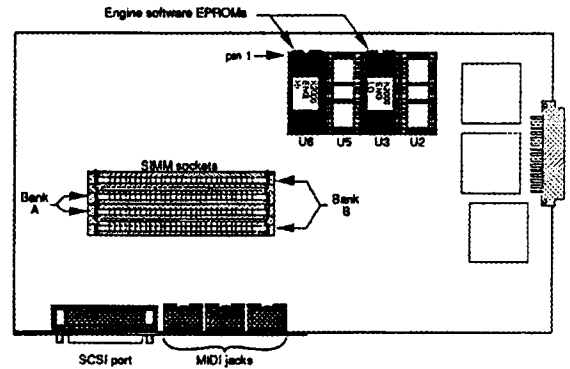

Figure 2.6 - Engine Board memory chip layout
3. Locate the SIMM sockets on the Engine board (Figure 2.6). There are two banks of SIMM sockets, the two inner sockets are Bank A and the two outer sockets are Bank B. When installing one bank (2 SIMMs), install the SIMMs in the Bank A sockets. When installing two banks (4 SIMMs) of different sizes, make certain the 2 SIMMs in the Bank A sockets are the same size, and the 2 in the Bank B sockets are the same size.
3. Locate the old software ICs U3 and U6, on the Engine Board (Figure 2.6 above). Remove the old ICs using an IC puller or similar tool. Be careful not to damage the traces on the board.